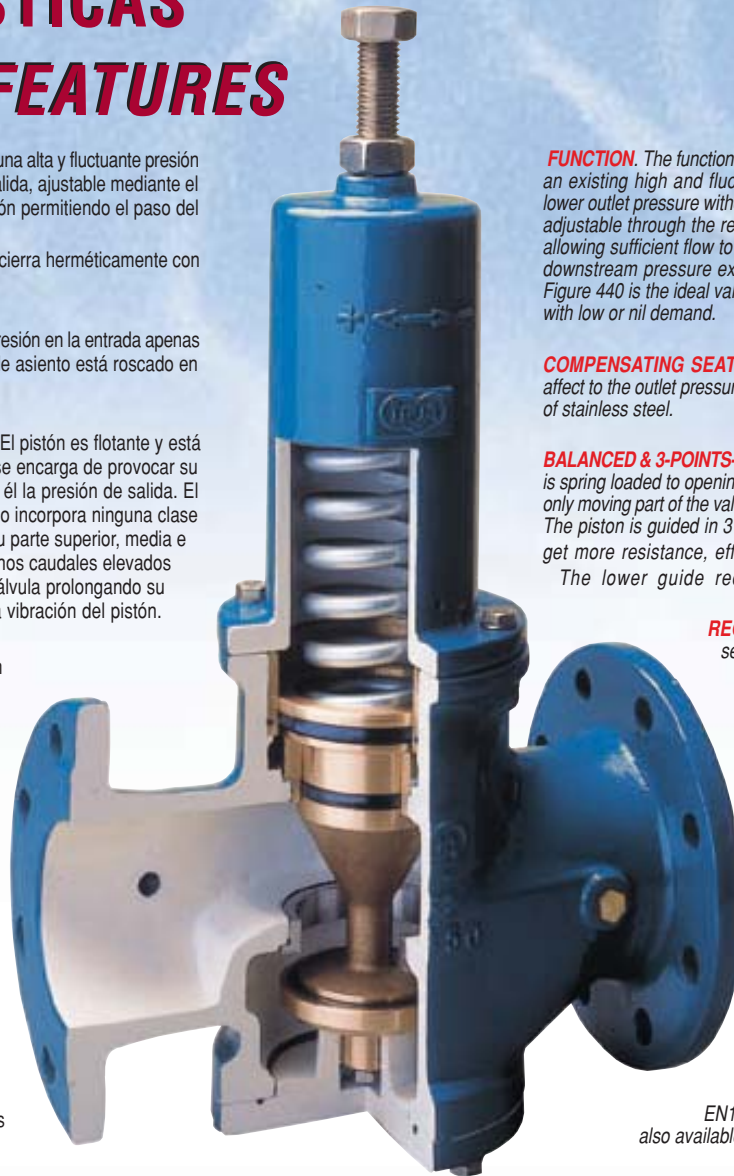

Figure 440
**FUNCTION.** The function of 440 valve is to reduce automatically an existing high and fluctuating pressure to a predetermined lower outlet pressure without shocks. The outlet pressure will be adjustable through the regulation screw. The valve will throttle allowing sufficient flow to match the demand, closing when the downstream pressure exceeds the adjusting spring set point. Figure 440 is the ideal valve for systems with prolonged periods with low or nil demand.